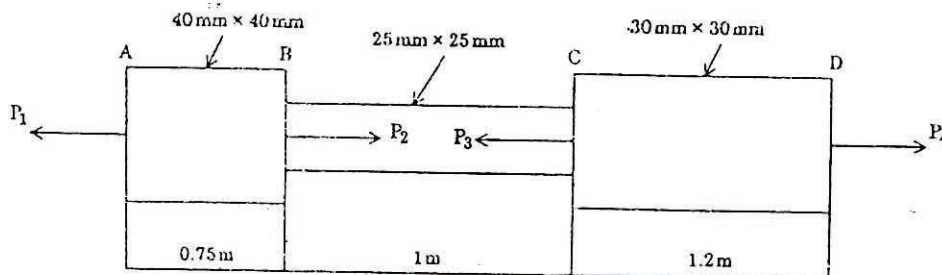

Fig.1
- III. (a) A member ABCD is subjected to point loads P_1 , P_2 , P_3 and P_4 as shown in figure 1. Calculate the force P_3 necessary for equilibrium if $P_1 = 120$ kN, $P_2 = 220$ kN and $P_4 = 160$ kN. Determine also the net change in the length of the member. Take $E = 200$ GN/m².